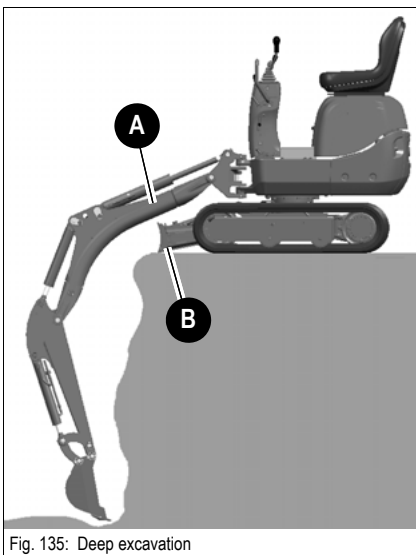

Fig. 135: Deep excavation
- ☞ If you carry out deep excavations with stabiliser blade **B** at the front, ensure that boom **A** does not touch or rest on stabiliser blade **B** (Fig. 135).